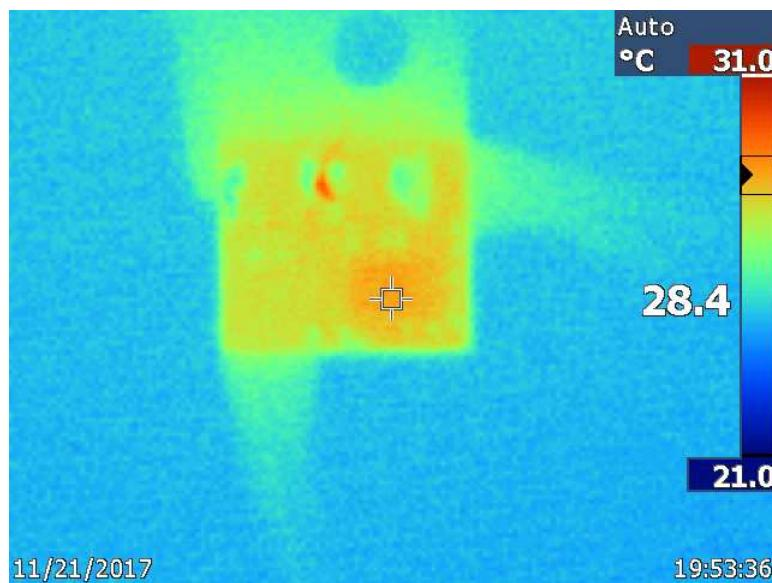

図 15. Thermal Image at 24 V_{IN} , 5 V_{OUT} , $10\text{ mA I}_{\text{OUT}}$
The infrared (IR) thermal image in 図 15 was taken at steady state with 24 V_{IN} and the LMR36006 output at a load of 10 mA (no airflow). The ambient temperature is approximately 22°C . The maximum IC temperature is 28.4°C .